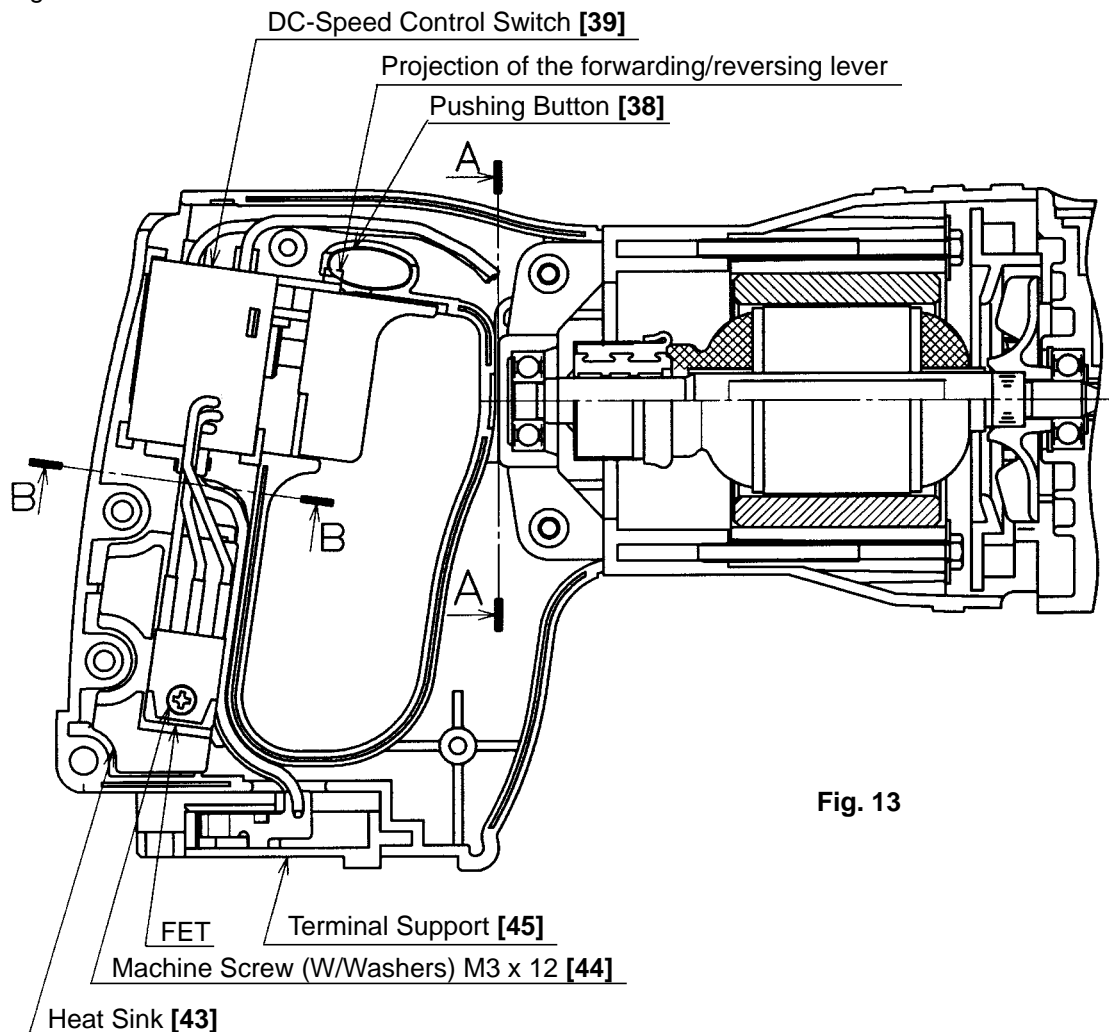

Fig. 13
- (1) Be sure to perform wiring connections as indicated in Figs. 13, 14, 15 and 16.
- (2) Mount the DC-Speed Control Switch [39] to Handle (A). (B) Set [37] so that the projection of the forwarding/reversing lever at the top of the switch is inserted into the U-shaped groove of the Pushing Button [38].